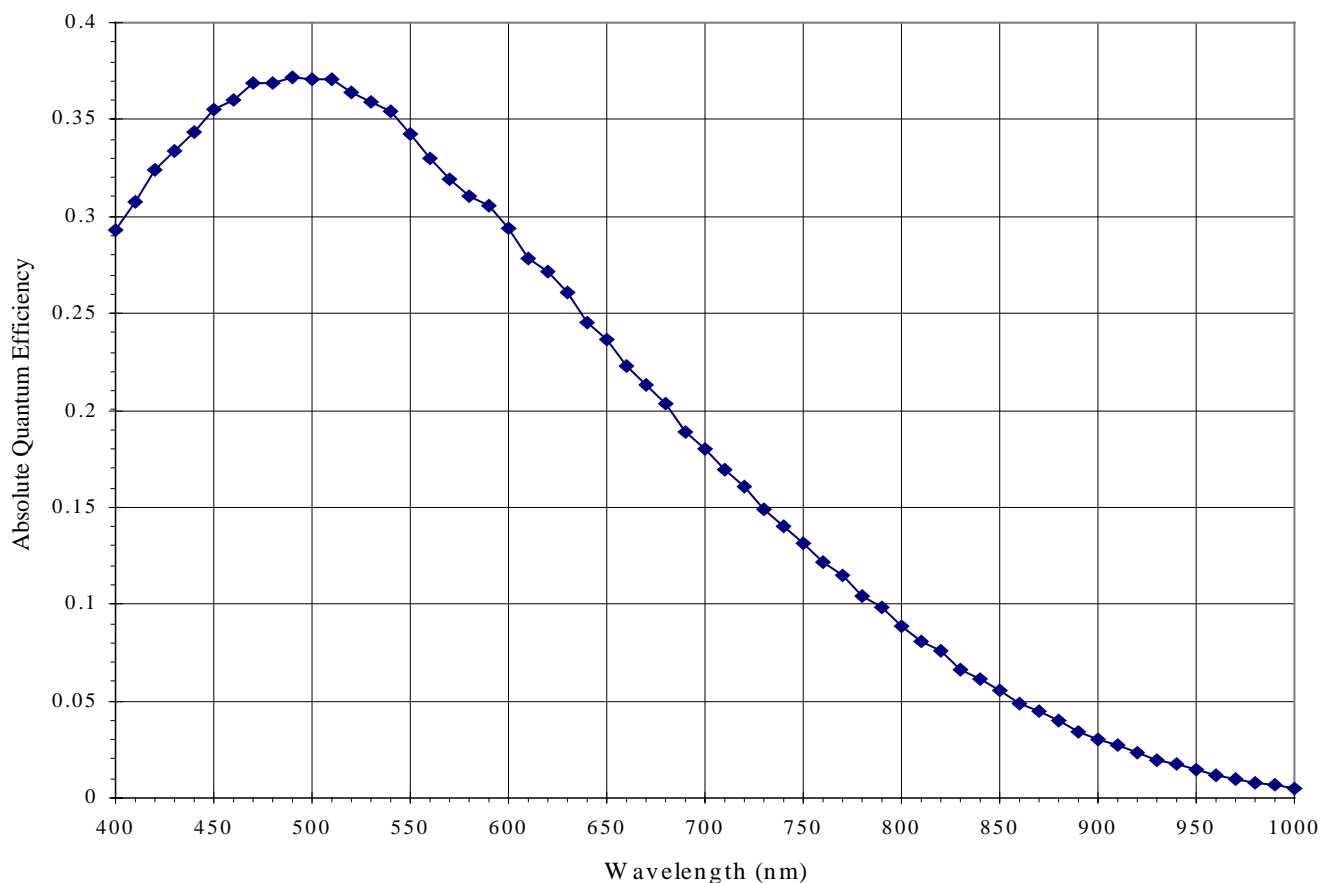

Figure 17 Nominal KAI-1010M Spectral Response
2. Refer to typical values from Figure 17 Nominal KAI-1010M Spectral Response